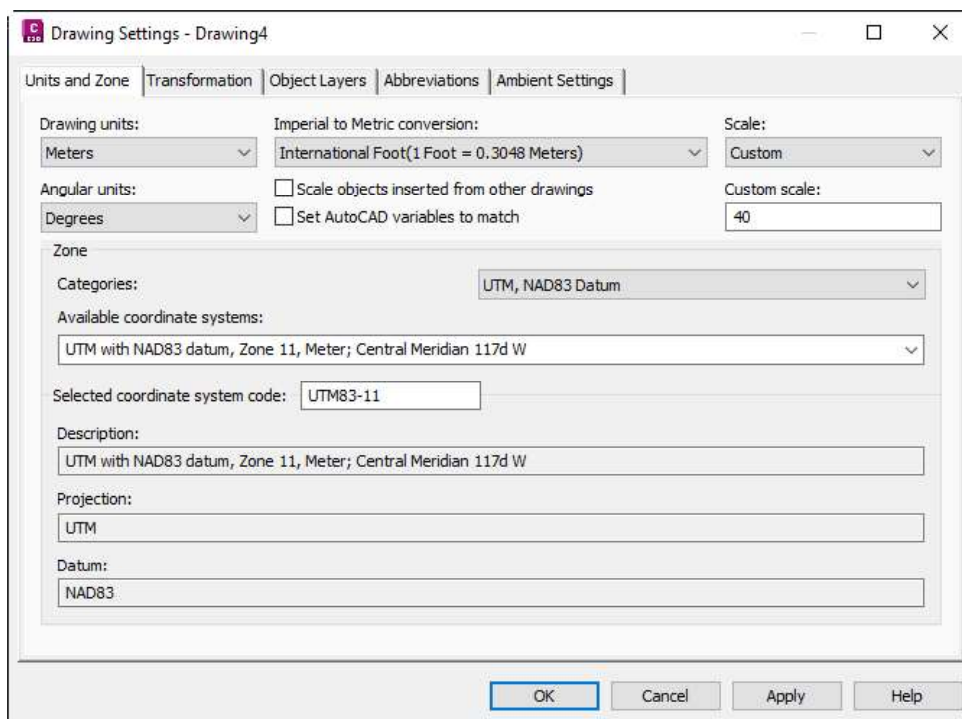

Figure 3-76 The settings in the **Units and Zone** tab of the **Drawing Settings - Drawing 4** dialog box
3. In the **Available coordinate systems** drop-down list, select the **UTM with NAD83 Datum, Zone 11, Meter; Central Meridian 117d W** option and then choose the **Apply** button from the **Drawing Settings** dialog box. The drawing is set to UTM Zone 11 projection and the datum is set to NAD 83, refer to Figure 3-76.